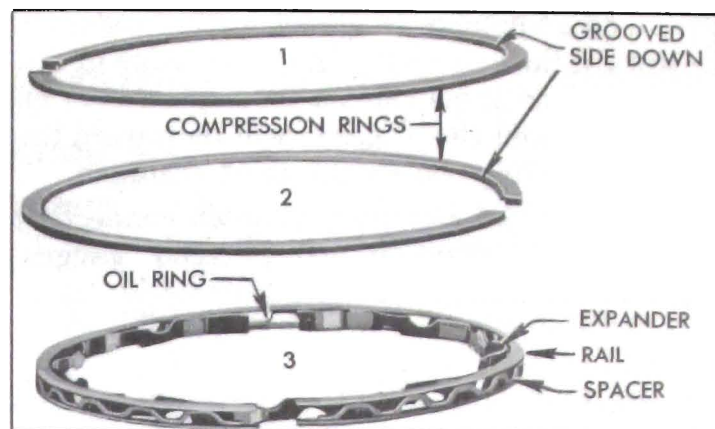

Figure 2-37—Compression and Oil Rings
7. Remove compression rings using Ring Expander KMO-232. Then remove oil ring by removing the two rails, spacer, and expander which are separate pieces in each piston third groove. See figure 2-37.
7. Install compression rings in second and first grooves of each piston. Be sure to place the grooved or beveled side of each ring toward bottom of piston. See figure 2-37. All compression rings are marked either with a dimple, a